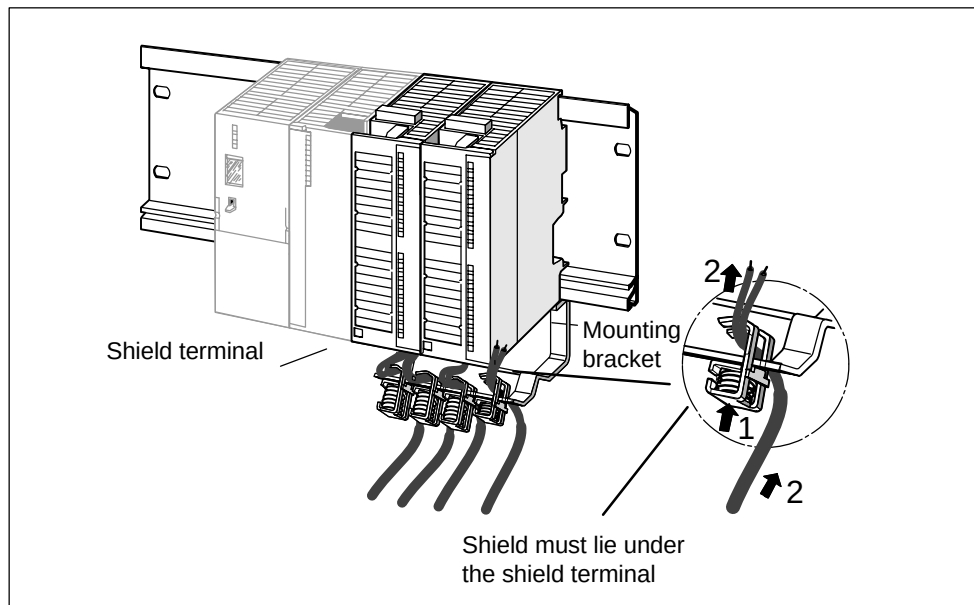

Figure 4-8 Attaching Shielded 2-Wire Cables to a Shield Contact Element
3. A slotted web is arranged at the bottom side of the terminal element. Place the shield terminal at this position onto the edge of the mounting bracket (see Figure 4-8). Press the shield terminals down and swing them into the desired position.
You can only attach one or two shielded cables per shield terminal (see Figure 4-8 and Table 4-6). The cable is connected by its bare cable shield. There must be at least 20 mm of bare cable shield. If you need more than 4 shield terminals, start wiring at the rear row of the shield contact element.